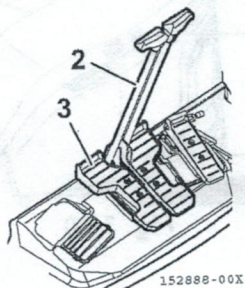

Fig. 3-55
1. Set the left and right travel levers (Fig. 3-55, 2) or pedals (Fig. 3-55, 3) to the neutral position to stop the machine.